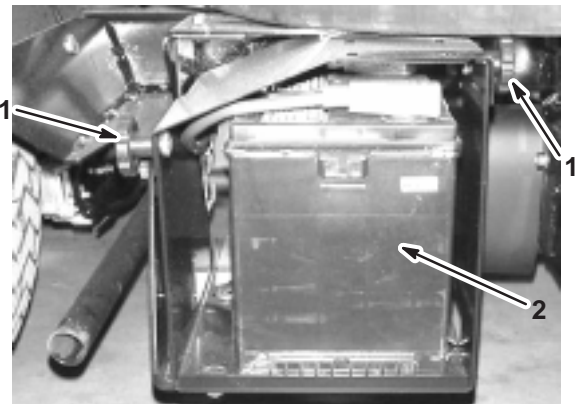

Figure 55
2. Loosen the knobs on the sides of the battery box and remove the battery cover (Fig. 55).
3. Remove the battery retainer and fasteners (Fig. 55).
3. Install the battery retainer and secure it with the fasteners you removed previously (Fig. 55).
4. Install the battery cover and secure it with the 2 knobs (Fig. 55).
1. Loosen the knobs on the sides of the battery box and remove the battery cover (Fig. 55).